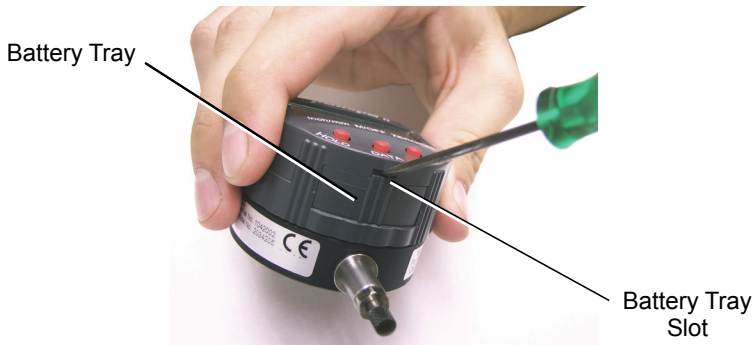

Figure 36 - Releasing the Battery Tray
- 1) Using a small flat blade screw driver (Figure 36) carefully slide the blade into the slot above the tray and pry out to release the battery tray from its locked position enough to grasp with fingers (Figure 37).